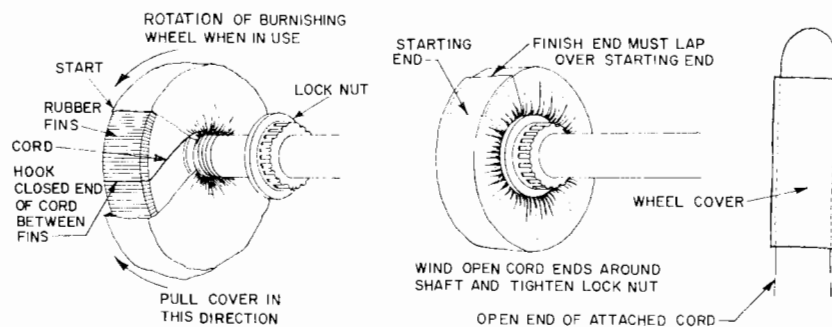

Fig. 112. Cloth covered burnishing wheel.
After edge setting, the heel is the next part of the shoe to be finished. Apply burnishing wax to the burnishing wheel (Fig. 112) by holding the cake of wax against the revolving wheel. Burnish the heel, holding and moving the shoe as in the scouring operation. Use a little more pressure to bring out a high gloss. Add more wax to the wheel as needed during the heel finishing operation. The procedure is repeated until enough wax has been worked into the surface of the leather to produce
Another flange retaining nut is screwed onto this extension (Fig. 112). This nut must be screwed tight when the machine is running. To impart the necessary cushion, the wheel has a ribbed rubber tire. The wheel is covered with a burnishing cloth which is well waxed. These wheel (roll) covers are available in sizes to fit each wheel.
1. Loosen lock nut (Fig. 112) and slide the wheel over just enough to remove the worn cover.
3. Since the wheel rotates toward the operator, hook the loop into the fins of the rubber tire and bring it *up, over and around* the wheel (Fig. 112), ending by lapping *over* the starting end (Fig. 112). Be sure the cover fits well all around and has no wrinkles.